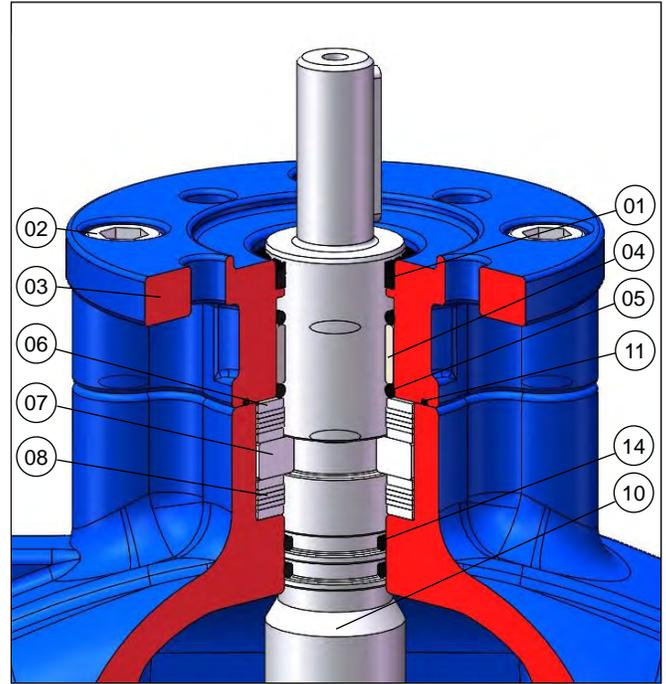

Fig. 3
- (1). Check that the valve still functions correctly by operating it for a minimum of five turns.
- (2). Direct mounted electric actuator open and close positions are pre-set at the works, and should not need adjustment but torque settings may need adjustment by a suitably qualified engineer.
- (3). Pedestal mounted actuators must be set on site.
- (4). Where pedestals are fitted with open / close indicators, attention must be made during connection to ensure that they correctly reflect the position of the valve.
- (5). Where a venting plug or valve is fitted, this should be used to remove the air from the valve. Alternatively, where this is not provided, air can be removed by loosening the gland bolts(See Page 9, Fig 3, Item 2).
- (6). When all the air has been safely vented, the cap, valve or gland bolts must be re-tightened ensuring that any gaskets or washers are correctly seated.
- (7). When the pipeline has been charged, inspect the valve for any leaks and adjust as necessary in accordance with maintenance instructions.
- (8). All external debris and foreign matter should be cleaned off from the external surfaces of the valve.
- (9). Any paint / coating which has been damaged during installation should be appropriately touched up.
(2). Remove the Gland flange(03) with Wiper ring(01) attached. (The Wiper ring is a "Factory Installed" press fit and therefore must be reordered as an assembly along with the Gland flange)(See Fig. 3).
(3). When performing step 2, verify the location of the Upper Stem Seal O-rings(04) and the Stem Seal slide bearing(05). They may be located on the Stem(10), or in the counterbore of the Gland flange(03).
(4). Turn the Stem(10) in a closing direction until it disengages from the Wedge(17), and remove from valve.